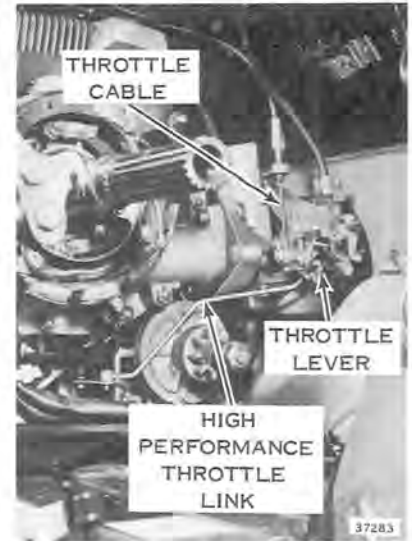

Figure 6-11
- d. Secure carburetor to insulating block with two nuts and star washers. Assemble throttle lever to shaft with screw. High performance throttle link must be at (as shown in Figure 6-11) edge of throttle lever slot with both the carburetor throttle and the high performance throttle closed. The carburetor throttle lever should turn about 15° before the slotted lever engages the high performance throttle link.